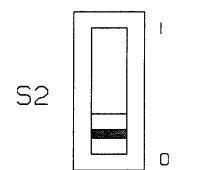

FIGURE 4
- 3.1 MAKE SURE THAT THE INPUT CONFIGURATION SWITCH S2, LOCATED ON THE REAR OF THE UNIT, IS SET TO THE "0" POSITION, AS SHOWN IN FIGURE 4.